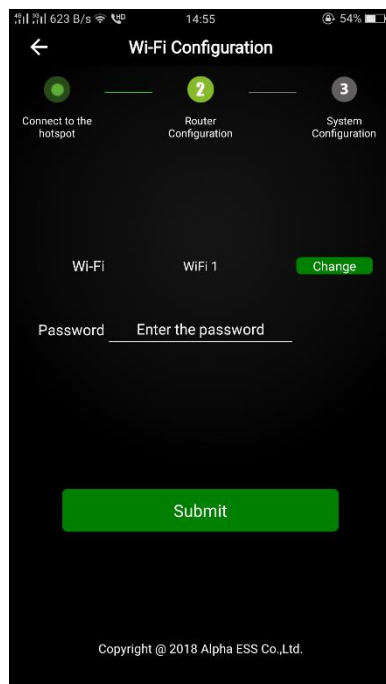
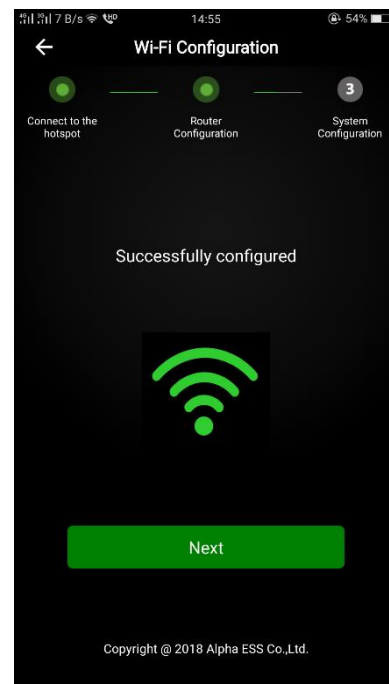

Figure 4.4 WiFi Setting
Figure 4.5 Configuration Success
Step 3: enter the WiFi account and password and then save it, the configuration is successful, click "next", as shown in Figure 4.4 and Figure 4.5.